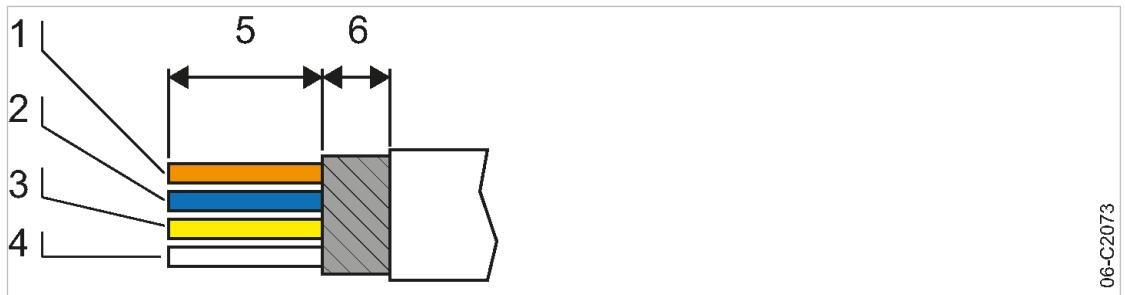

Fig. 18 Strip the isolation from the network cable
1. Stripping the network cable isolation (see Fig. 18).
2. Spread the conductors according to the color coding of the contact element of the RJ45 connector (see Fig. 18).